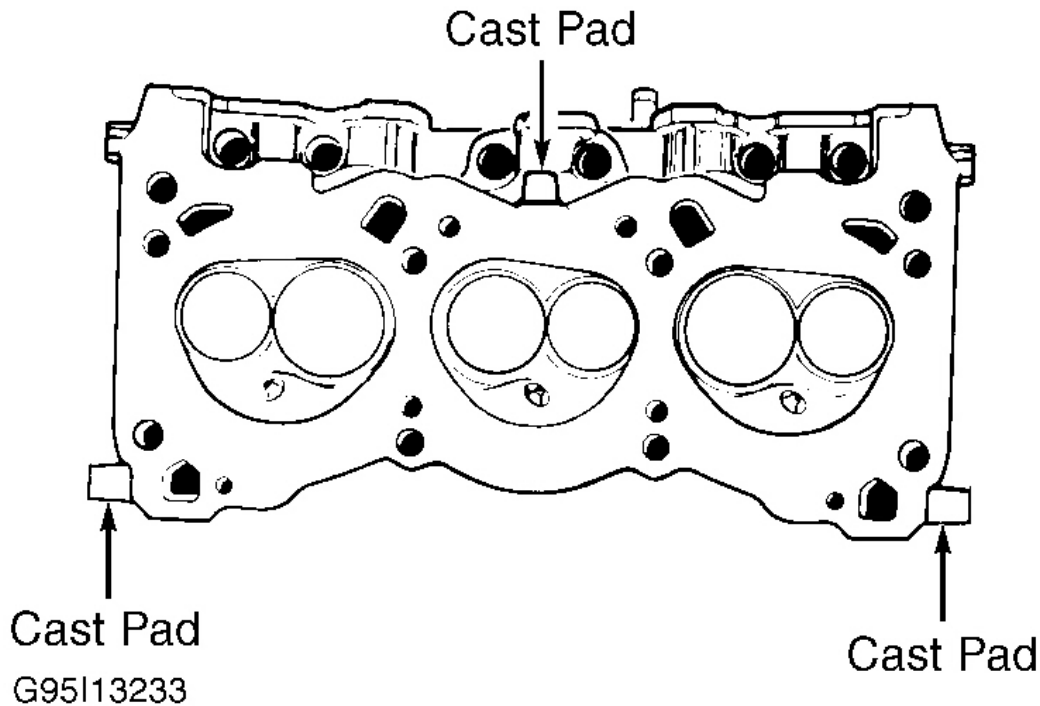

Fig. 21: Measuring Cylinder Head Thickness
2. After resurfacing, use a depth micrometer to measure distance from deck surface to 3 cast pads. See **Fig. 21**. Replace cylinder head if dimension is less than .044" (1.12 mm). New cylinder head dimension should be .054-.066" (1.37-1.68 mm).